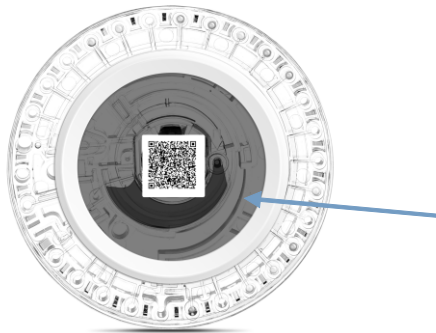

Figure 5-1
- Only make marks in the gray area on the reagent disc, seeing Figure 5-1.